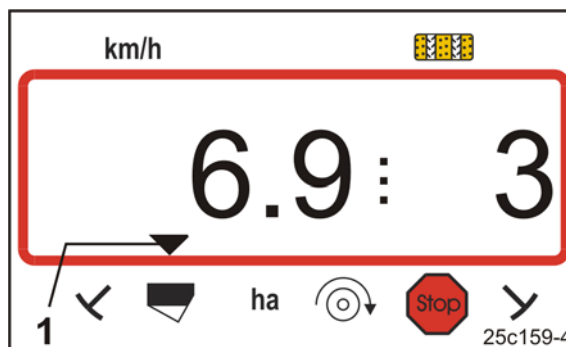

Fig. 242
- A message box appears on the control terminal. For example, the control symbol for the fill level is marked on the AMALOG⁺ (Fig. 242/1).